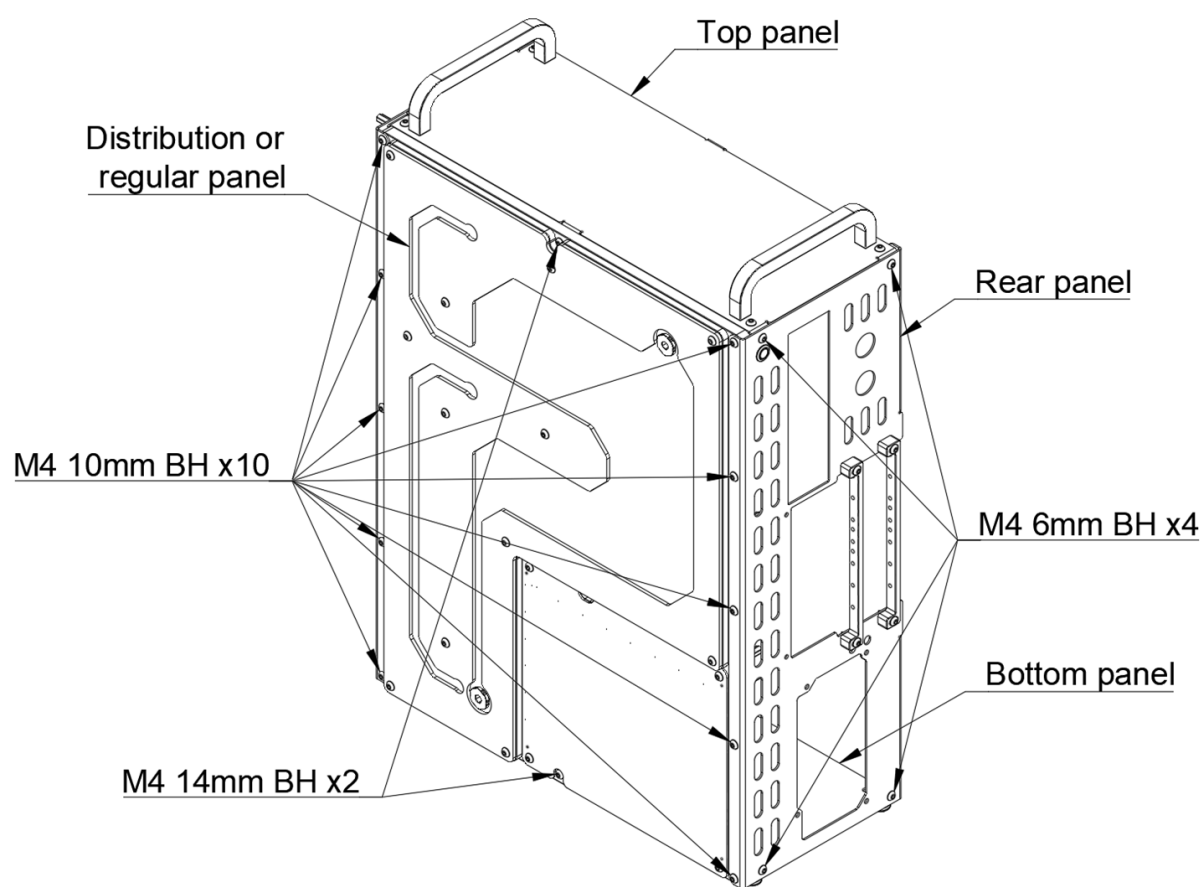

Figure 4A
- Step 4A: Install the rear panel and the front panel to the distribution or regular panel, mounting is the same. Secure them with M4 10mm BH x5 on the front and x5 on the rear panel according to *Figure 4A*.
- Step 4B: Install and secure the bottom and top panel to the rear panel with M4 6mm BH x4 according to *Figure 4A*.
- Step 4D: Secure the top and bottom panels to the distribution or regular panel with M4 14mm BH x2 according to *Figure 4A*.